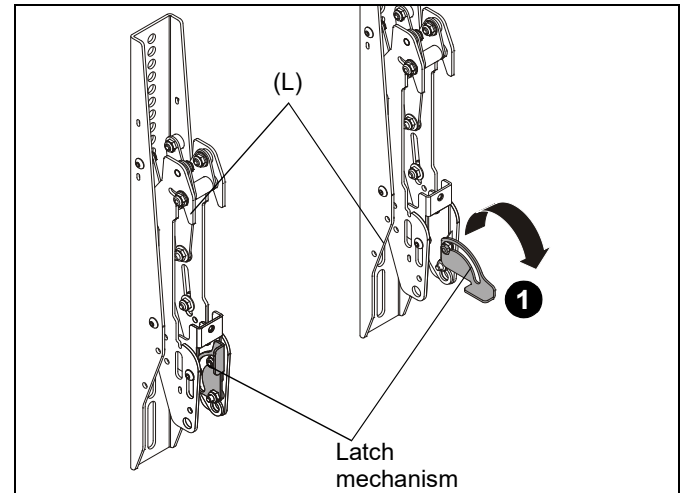

Figure 15
1. Lower the latch mechanism on each interface bracket (L). (See Figure 15)
1. Ensure that the latch mechanisms on interface brackets (L) are already lowered. (See Figure 15)